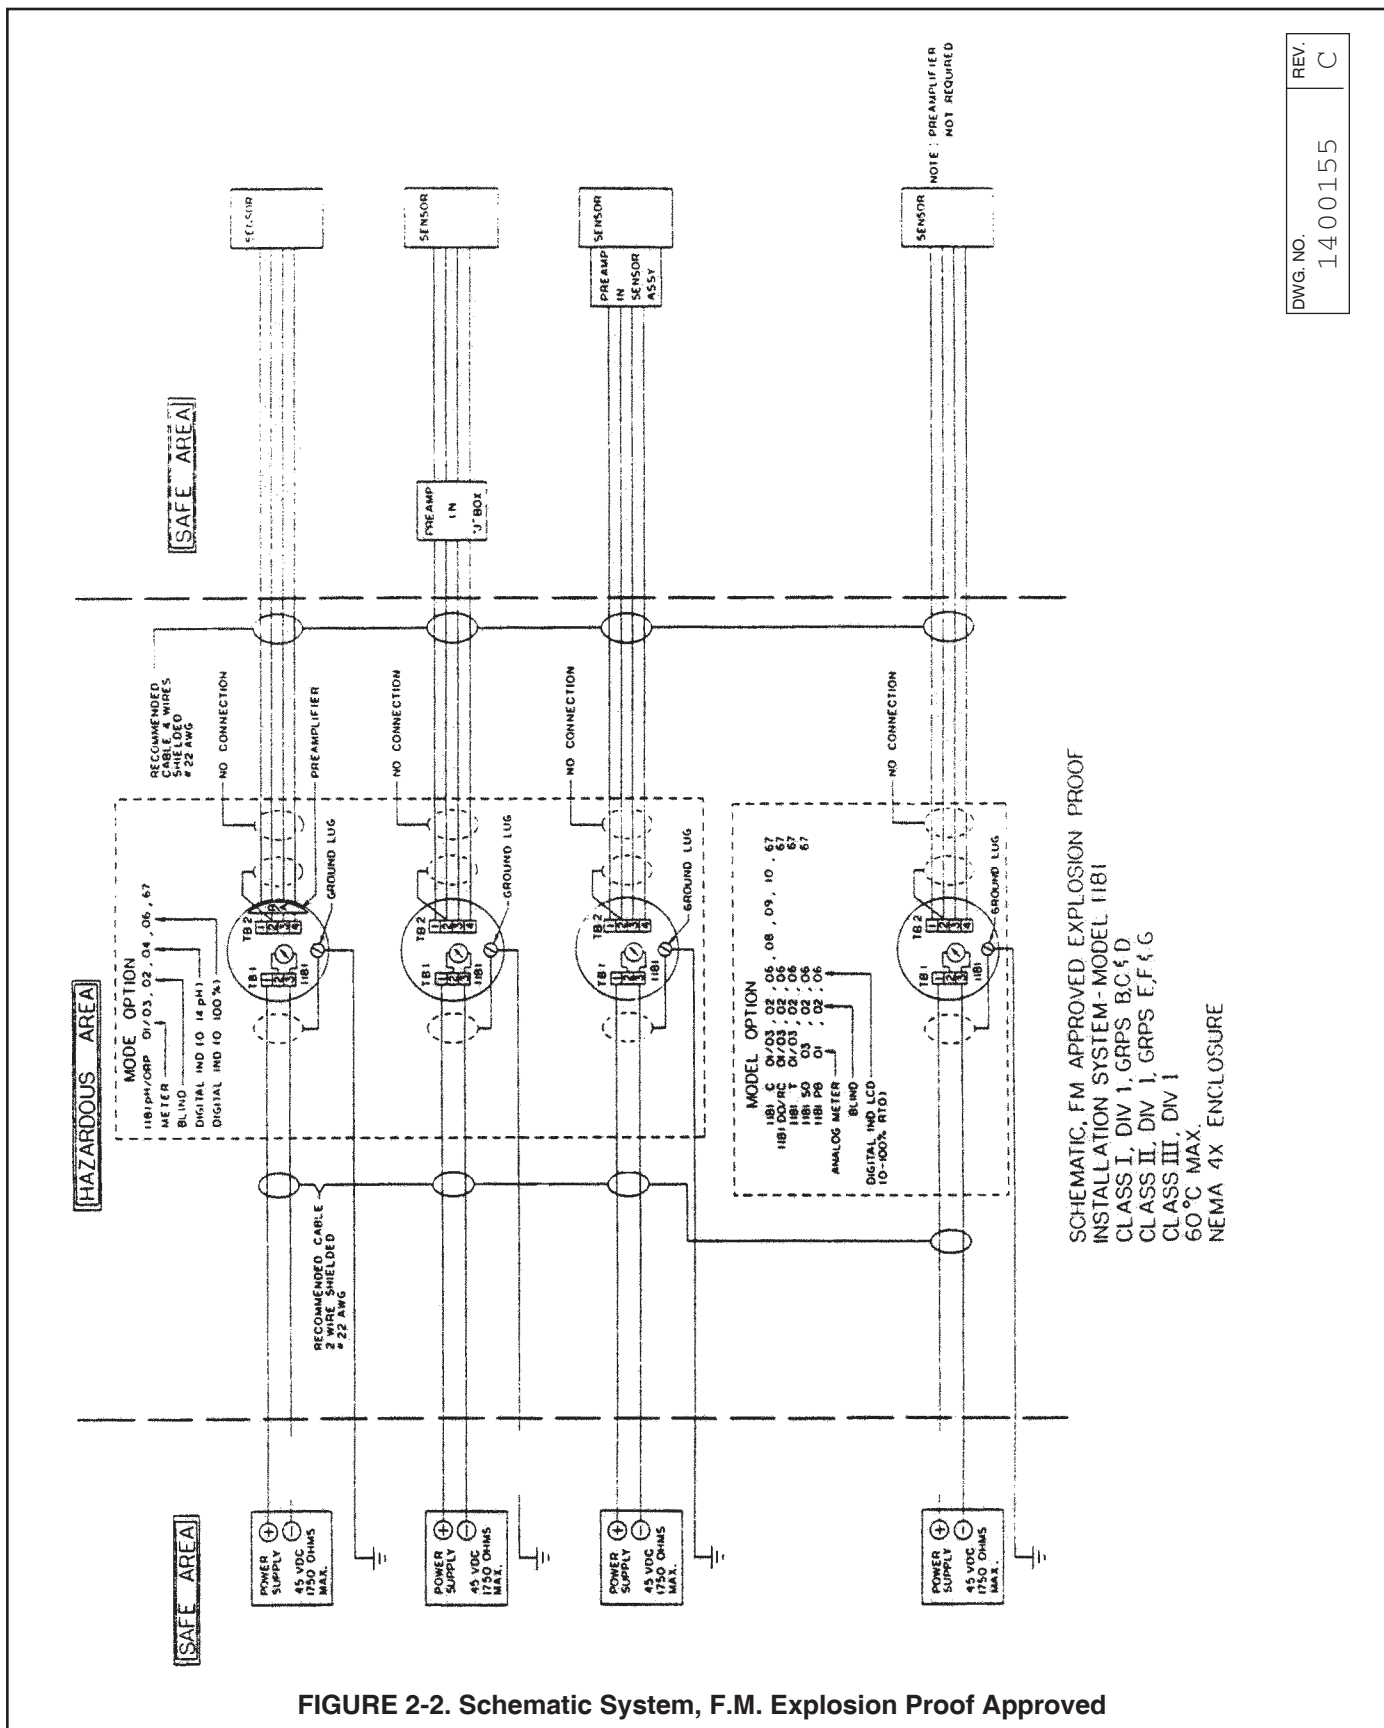

FIGURE 2-2. Schematic System, F.M. Explosion Proof Approved
5. FM approved Explosion proof installation must be in accordance with drawing number 1400155 (see Figure 2-2).